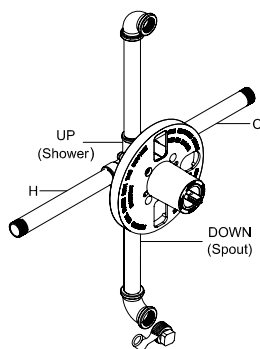

Fig .2
A. Position valve body correctly in wall (see Fig. 2 ).